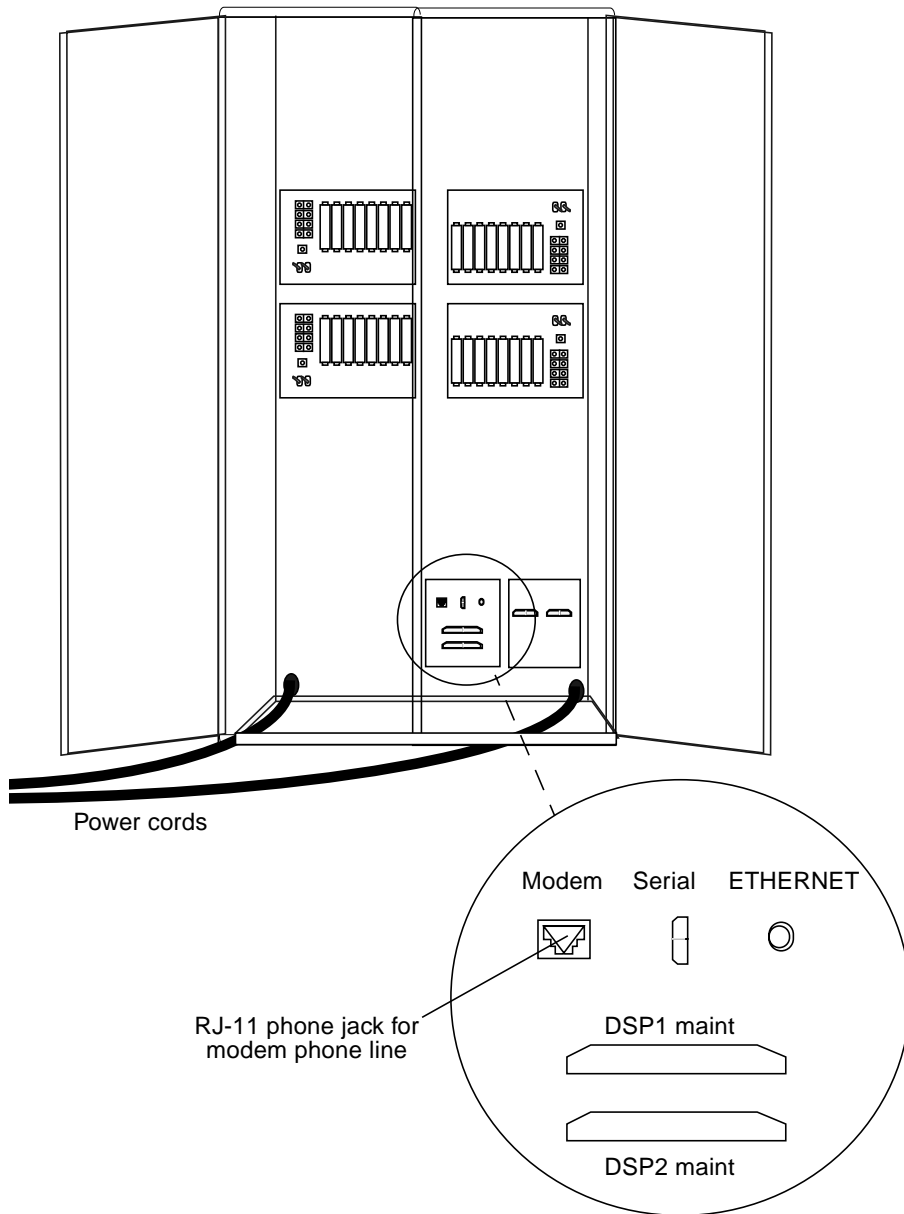

FIGURE 6-10 Connectors Inside I/O Bay Cabinet
3. Connect the dedicated phone line into the RJ-11 jack inside the I/O Bay Cabinet. See FIGURE 6-10.